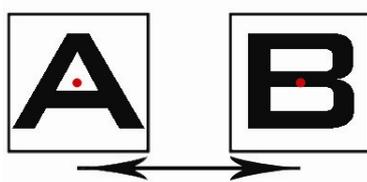

Fig. 6.1.08
**Center:** Calculate the pitch based on the center of the character, see Fig.6.1.08.